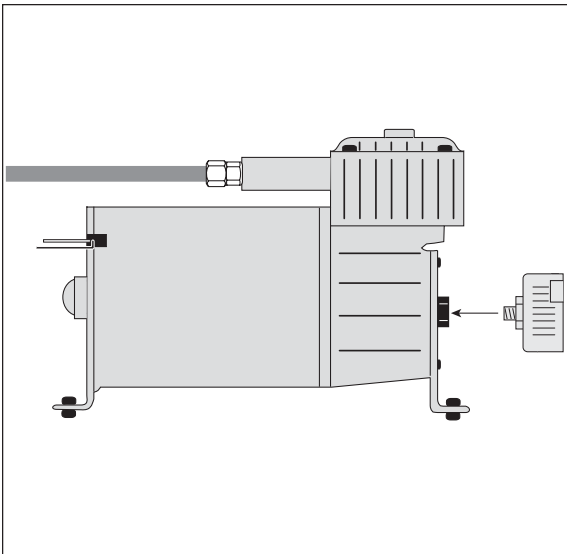

Figure 3
5. Attach the air filter to the inlet port at the back of the compressor (Figure 3).